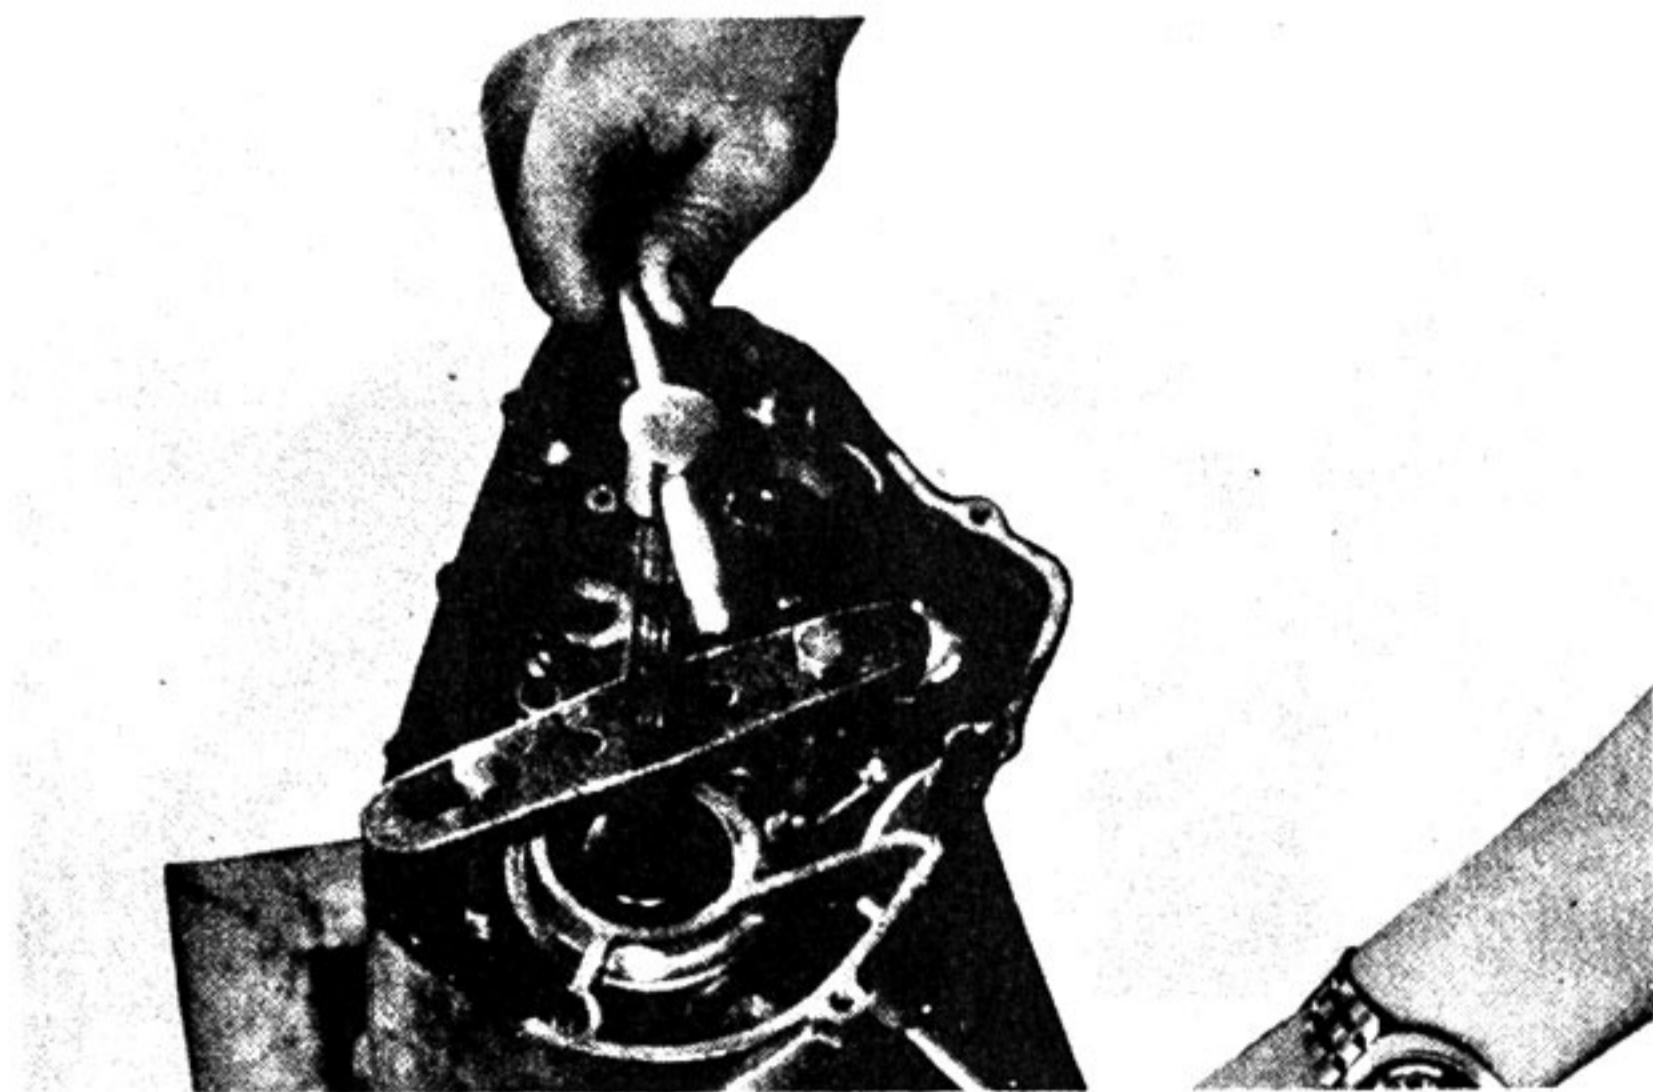

Fig. 4-15-2
- b. Install the crankcase dividing tool on the right crankcase and alternately tap the transmission main axle and the side of the right half with a soft faced hammer, so that the right half eventually separates completely from the left half. (Figs. 4-15-2 and 3)